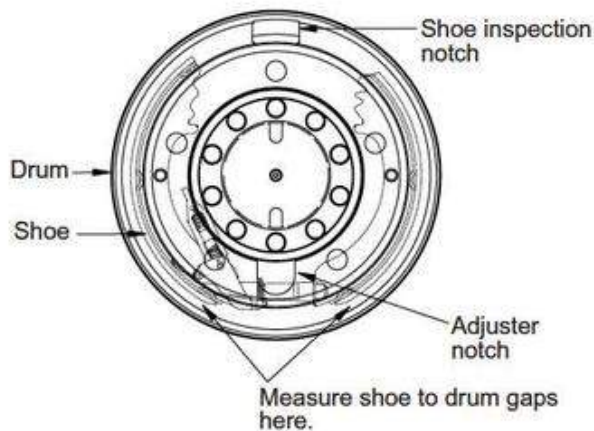

Figure 1. Inspection and Adjustment Notches
Use Figures 1, 2, and 3 as guide to disassembly and adjustment.
Replace the brake pedal components as shown in Figures 1 and 2 using fastener torques where shown. Also use the following notes:
1. Loosen the jam nut on the rod brake master cylinder (Figure 1).